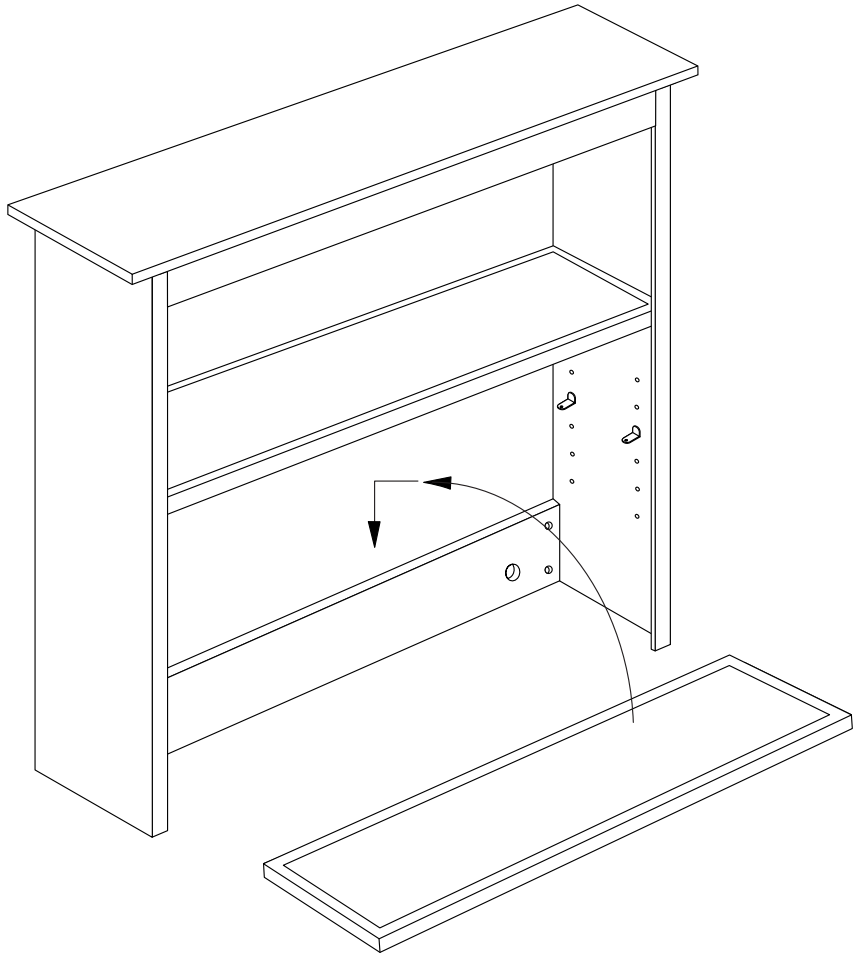

Figure 6A:
- A. According to your need, choose a desired shelf height position and insert the shelf pegs as shown in Fig. 6A.